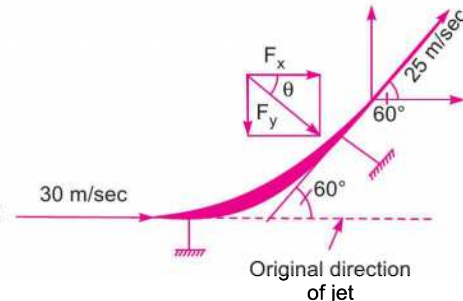

Fig. 17.13 (a)
-ve sign means the angle  $\theta$  is in the clockwise direction with  $x$ - axis as shown in Fig. 17.13 (a)
**Problem 17.16** (a) A stationary vane having an inlet angle of zero degree and an outlet angle of  $25^\circ$  as shown in Fig. 17.13(b), receives water at a velocity of 50 m/s. Determine the components of force acting on it in the direction of the jet velocity and normal to it. Also find the resultant force in magnitude and direction per unit weight of the flow.